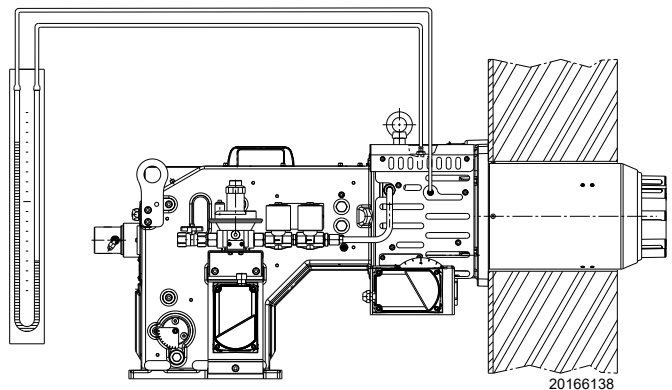

Fig. 22
- Fit a U-type pressure gauge or a differential pressure gauge (Fig. 22), with socket (+) on the gas pressure of the pipe coupling and (-) in the combustion chamber. The manometer readings are used to calculate MAX burner output.
The arrival of gas at the pipe coupling is evidenced by the U-shaped pressure gauge (Fig. 22) or else with the aid of a digital pressure gauge placed on the pressure test point under the coupling.